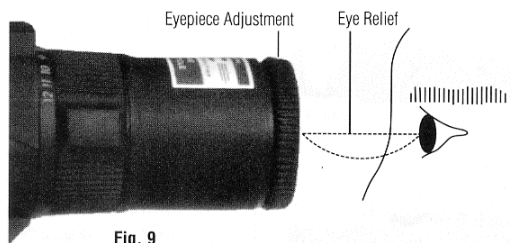
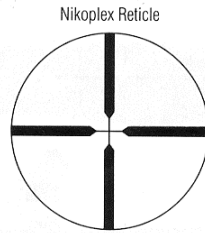

Fig. 9
Fig. 10
1. Fig. 10, 11 - Reticle (aiming system)
(1) Look through the eyepiece with your eye positioned about 4 inches away from the eyepiece lens (Fig. 9), and you will see the Nikoplex reticle (Fig. 10), or the BDC reticle (Fig. 11).